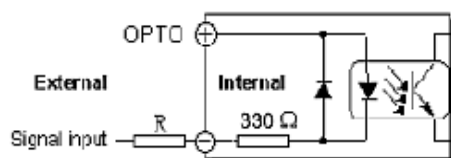

Figure 2-1
2.6.1 Input signal(as figure 2-1 below):